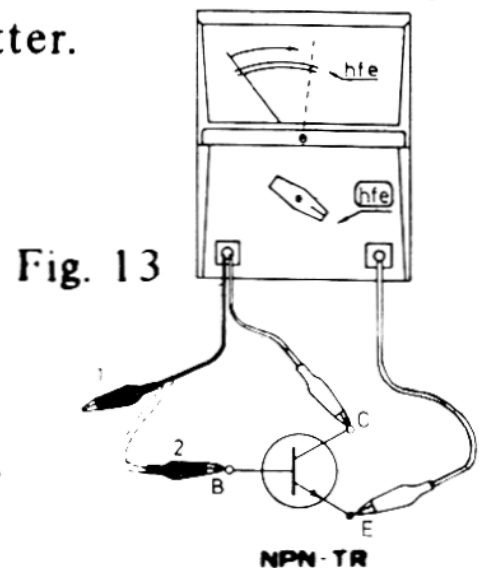

Fig. 13
3-4. For a good TR, there will be a big difference of reading between ① and ② of Fig. 13. In ①, when $I_B = 0$ and with base open, only a little I_{CEO} is read, and in ②, I flows and I_C changes reading an increased value by $I_B \times h_{FE}$.